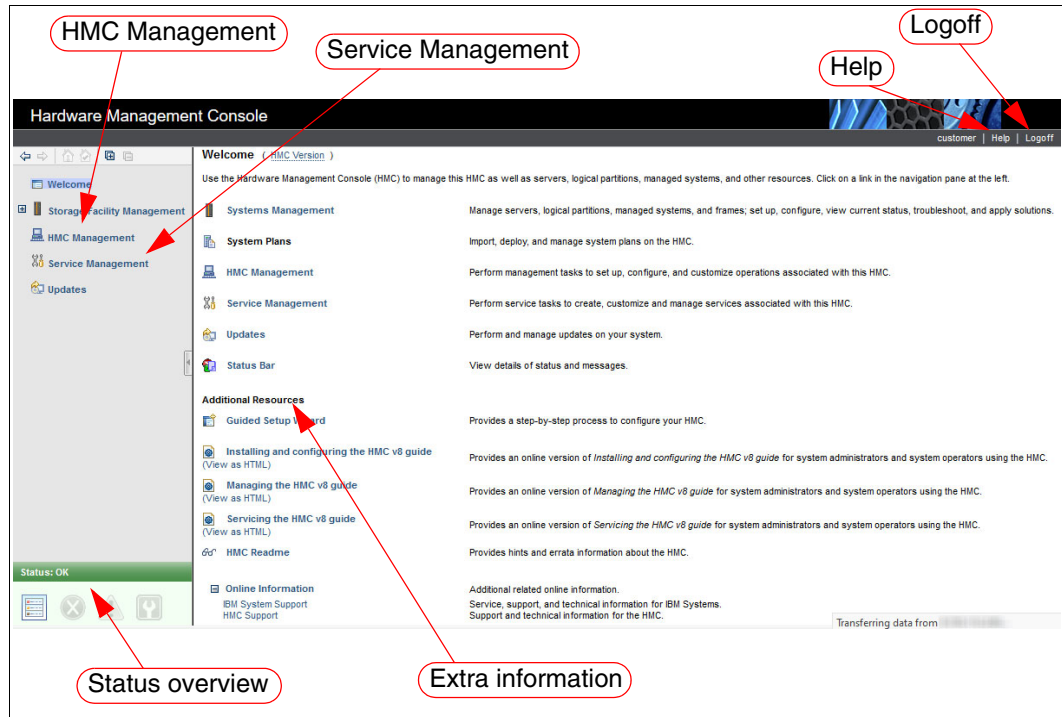

Figure 6-10 Web UI main window
3. If you are successfully logged in, you see the HMC window, in which you can select **Status Overview** to see the status of the DS8A00. Other areas of interest are shown in Figure 6-10 on page 172.